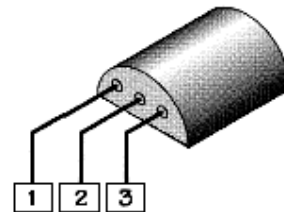

Fig.7: Determination of the Identities of BJT Leads
1. Label the transistor terminals of Figure 7 as 1, 2, and 3.